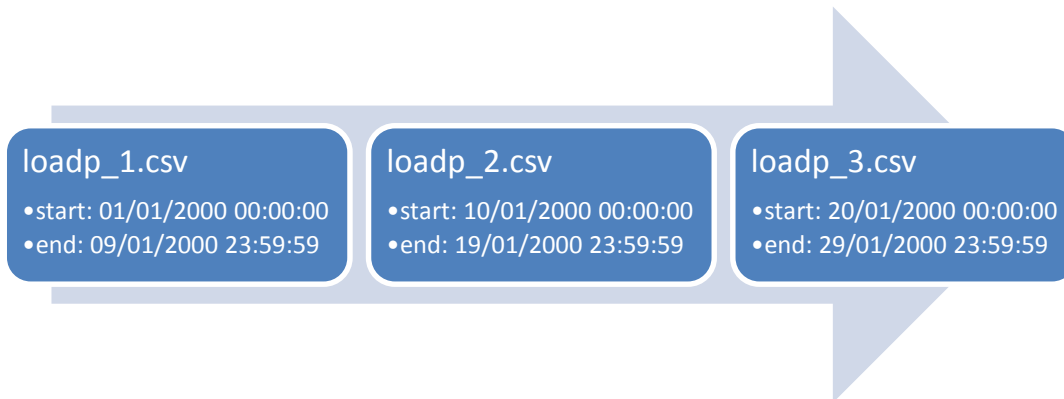

Figure 35 Chaining multiple CSV files
- Whilst using Excel is convenient, it is not an ideal tool for generating large 1 second time series data. However, the multi input file flexibility of ASIM would allow many 12-day CSV files to be specified as long as the time stamps were continuous. See Figure 35 for an example.